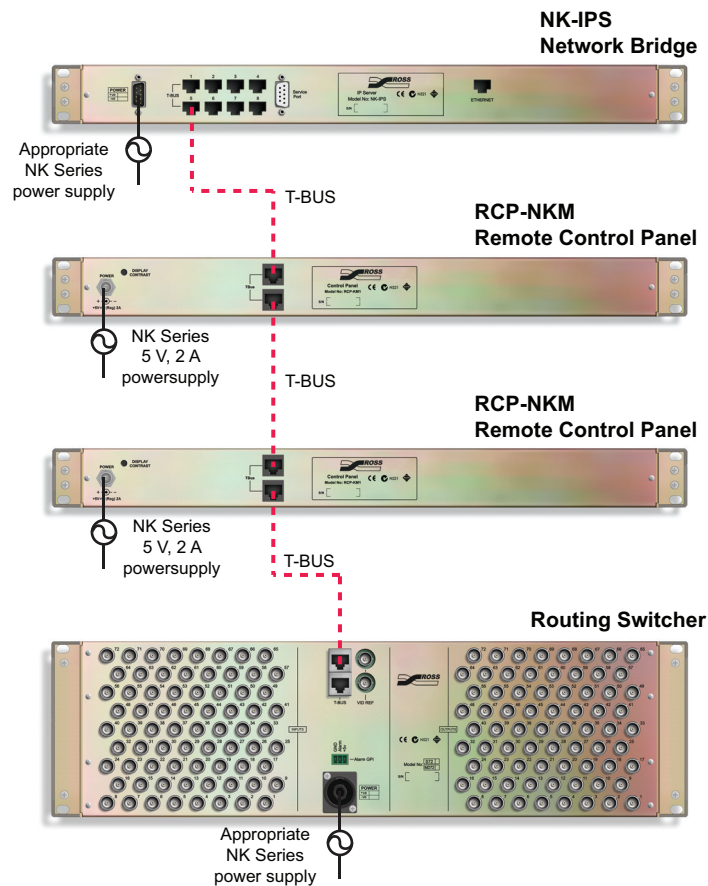

Figure 3.2 Remote control panels connected to NK Series equipment in a daisy-chain layout
2. Connect a straight-through CAT5 Ethernet cable between a **T-BUS** connector on the rear of the RCP-NKM and a **T-BUS** connector on the rear of another remote control panel, an NK Series routing switcher, or an NK-IPS (see **Figure 3.2**).